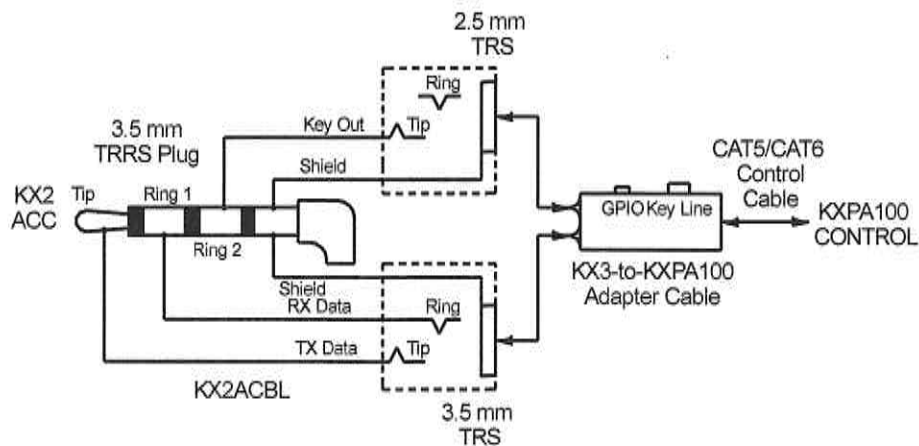
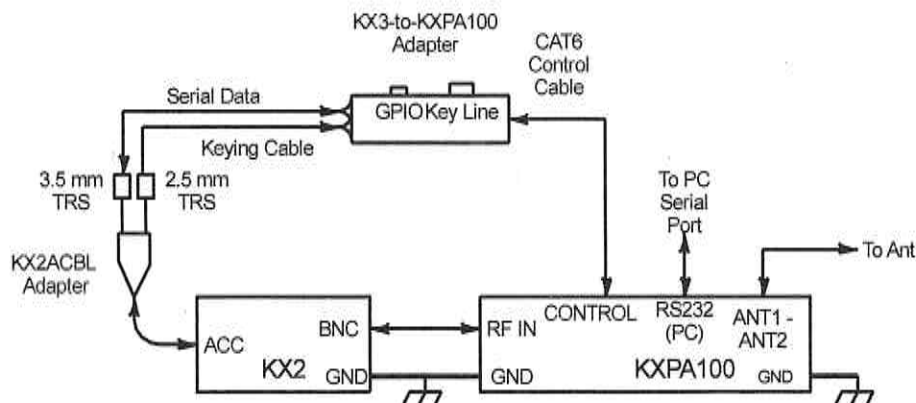

Figure 9-2. KX2ACBL and KX3-to-KXPA100 Adapter.
Figure 9-3. KX2 controlled operation.
KX3-to-KXPA100 Adapter: This cable adapter is designed to connect the KX3 ACC1 serial port and ACC2 keying line to the KXPA100. It is used in a KX2 system with a KX2ACBL. See Figure 9-3.
The smoothest, most highly integrated operation can be achieved if you purchase the optional KX3-to-KXPA100 Adapter Cable set (KXPACBL) for the KXPA100 and the KX2ACBL adapter cable for the KX2. This mode allows you to completely control the KXPA100 from the KX2 and enables you to locate the KXPA100 remotely from your KX2. Figure 9-2 shows the KX2ACBL and the KX3-to-KXPA100 adapter. Figure 9-3 shows the connections to be made for KX3/KX2 Controlled Operation. Note that instead of separate serial ports needed to update the KX2 and KXPA100, one PC COM port is daisy-chain connected to all.
- Connect the KX2 to the KXPA100 using the optional KX2ACBL and KX3-to-KXPA100 Adapter cable set (KXPACBL). Use Figure 9-3.
Automatic band switching is always active, even when using the KX2-Controlled band switching shown in Figure 9-3. This is a safety measure to ensure that the KXPA100 always operates on the same band as the exciter transceiver.
KX2-Controlled Band Switching: When the KX2 and KXPA100 are connected as in Figure 9-3, the KXPA automatically follows band changes made on the KX2 without having to measure RF. The band information is communicated over the serial data line.